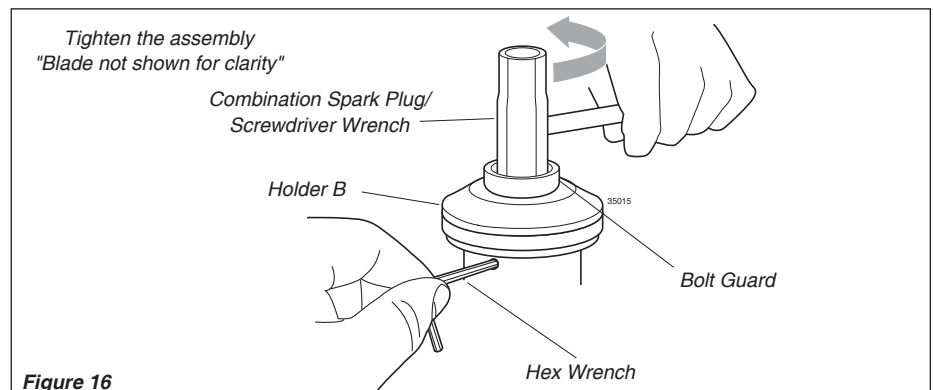

Figure 16
7. Lock Holder A to the gearcase by inserting the long end of the hex wrench through both holes as done in step 1 and tighten the shaft bolt securely with the combination spark plug/screwdriver wrench. See Figure 16.